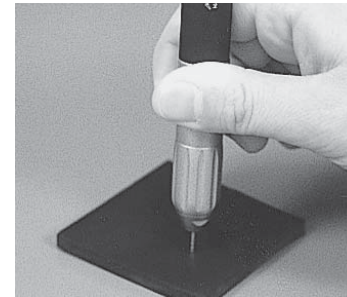
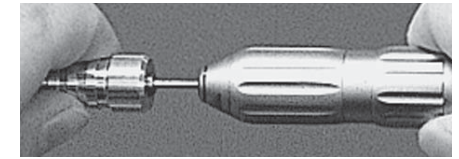

Fig. 7
Fig. 8
- 1) As the chuck of the PRESTO handpiece is a push-in type, set the FG burs of $\phi 1.6\text{mm}$ and push in as shown in Fig.7. Push in the bur of which the end is tapered by using the designated bur-inserting wrench as shown in Fig.8.